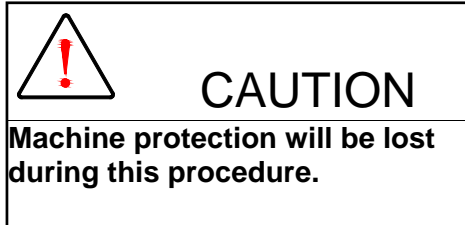

**Figure 3**
- Consists of a 3300/03-01, -02, or -03 System Monitor, a 3300/12 or /14 Power Supply, a new backplane and one of the PIMs shown in **Figure 3**.